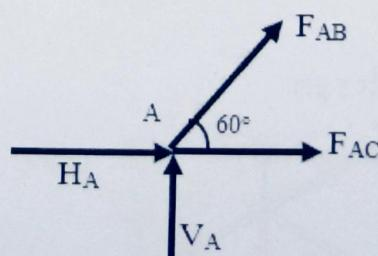

Fig 2.85
(3) Method of joints: -
a) FBD of joint A: (Fig 2.85) For